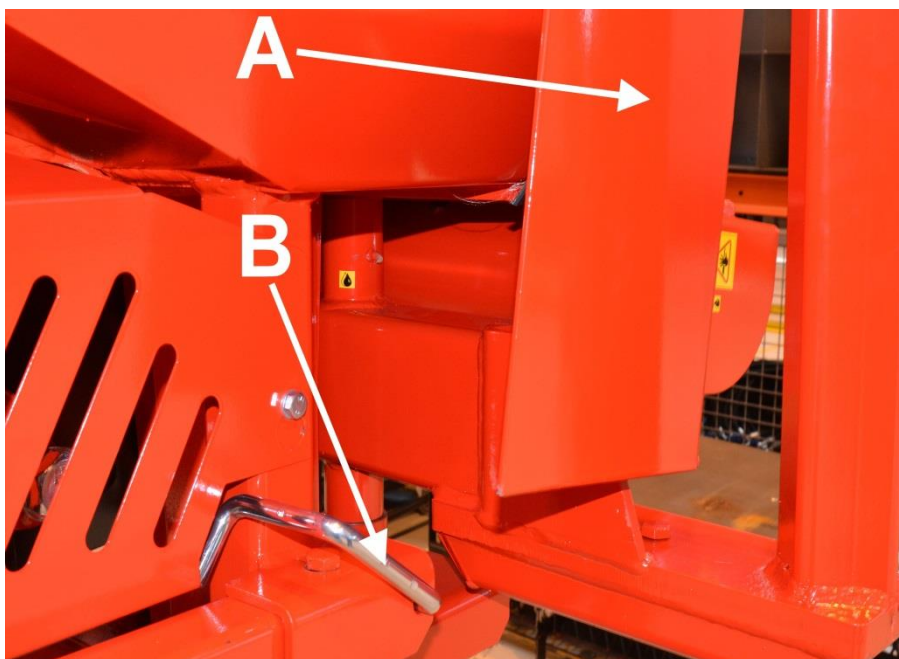

Figure 22.
1. Pull handle B (Figure 22) to make it possible to lower the splitting blade to the lowest possible position.
(Note! the out-feed conveyor is A in Figure 22)